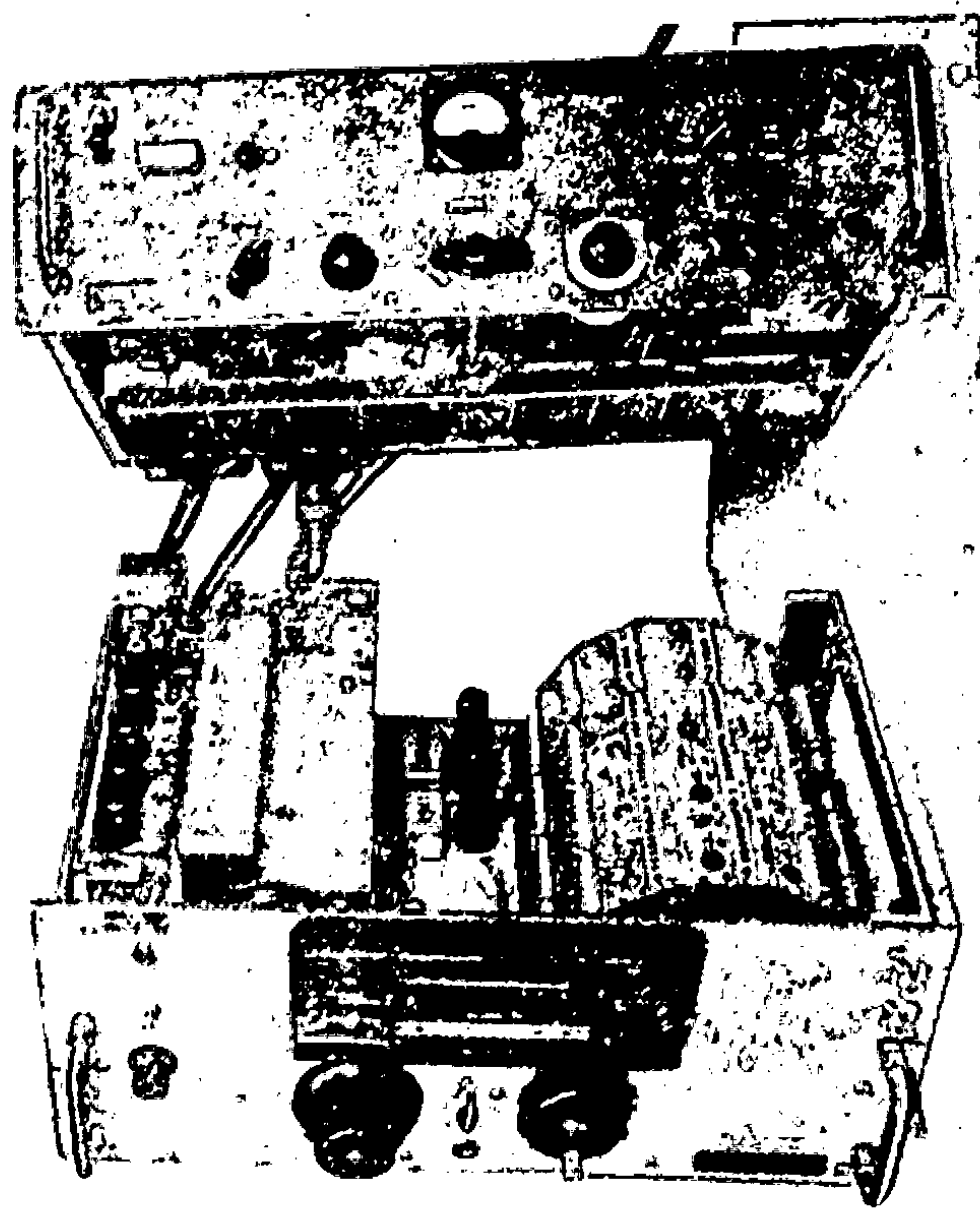

Fig. 55 Front View of the Two Receiver Units Connected with the Housing Removed
b) After checking the resistance, measure the voltage; to do this, place the upper and lower panels of the receiver on a table, as shown in Figs. 55 and 56, and unite them with special connecting cables, found in the spare parts kit of the receiver (make the connections according to the markings on the cable plugs and sockets on the panels of the receiver).